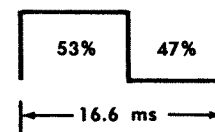

Figure 6-4
4. Leave the recorder in RECORD-STBY and connect the probe to TP204 (leave sync in INT position). Adjust horizontal TIME and VARIABLE controls on the oscilloscope until the distance between the leading edge of the first positive pulse and the trailing edge of the negative pulse is 10 divisions (100%) of the horizontal deflection. Adjust R258 for a 53% positive pulse period and a 47% negative pulse period (Figure 6-4). Move RECORD-PLAY lever to PLAY and recheck the waveform to make sure that it remains the same.